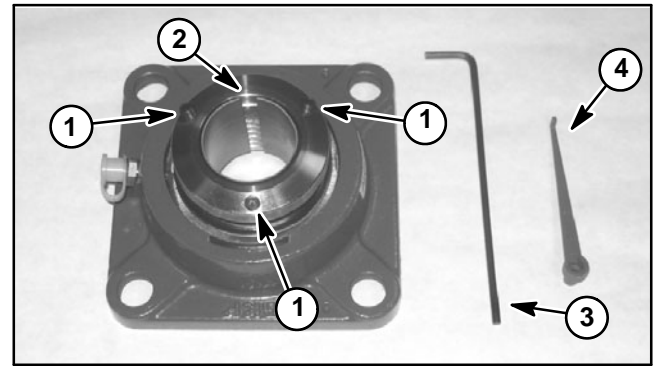

Figure 9
4. Tighten three (3) set screws in bearing so that they are finger tight. Bearing should slide on shaft with some resistance.
6. Position the bearing collar so that a set screw is directly opposite the split in the sleeve (Fig. 9). Tighten three (3) bearing set screws using the following steps:
NOTE: A replacement flange bearing includes an allen wrench and torque indicator that can be used to properly torque bearing set screws (Fig. 9). When tightening set screws, the torque is correct when the long end of the allen wrench contacts the torque indicator.